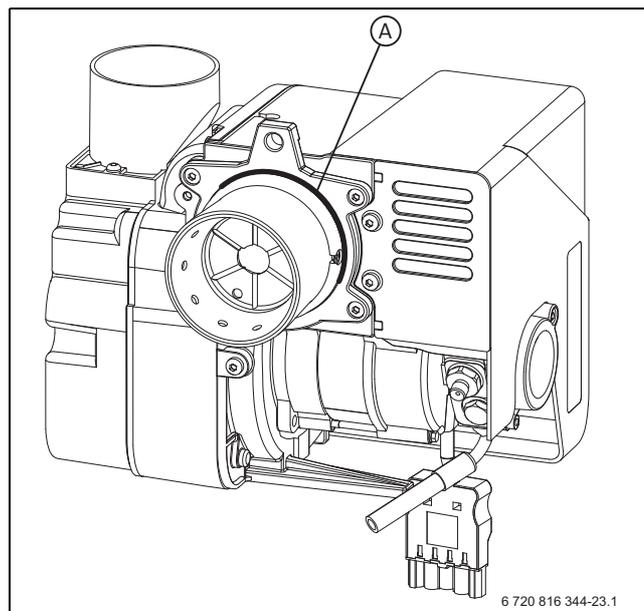

Fig. 82 Burner O-ring seal
- ▶ Always check that the O-ring seal (Fig. 82 item A) is in good condition before fitting the burner. Replace the O-ring seal if defective.